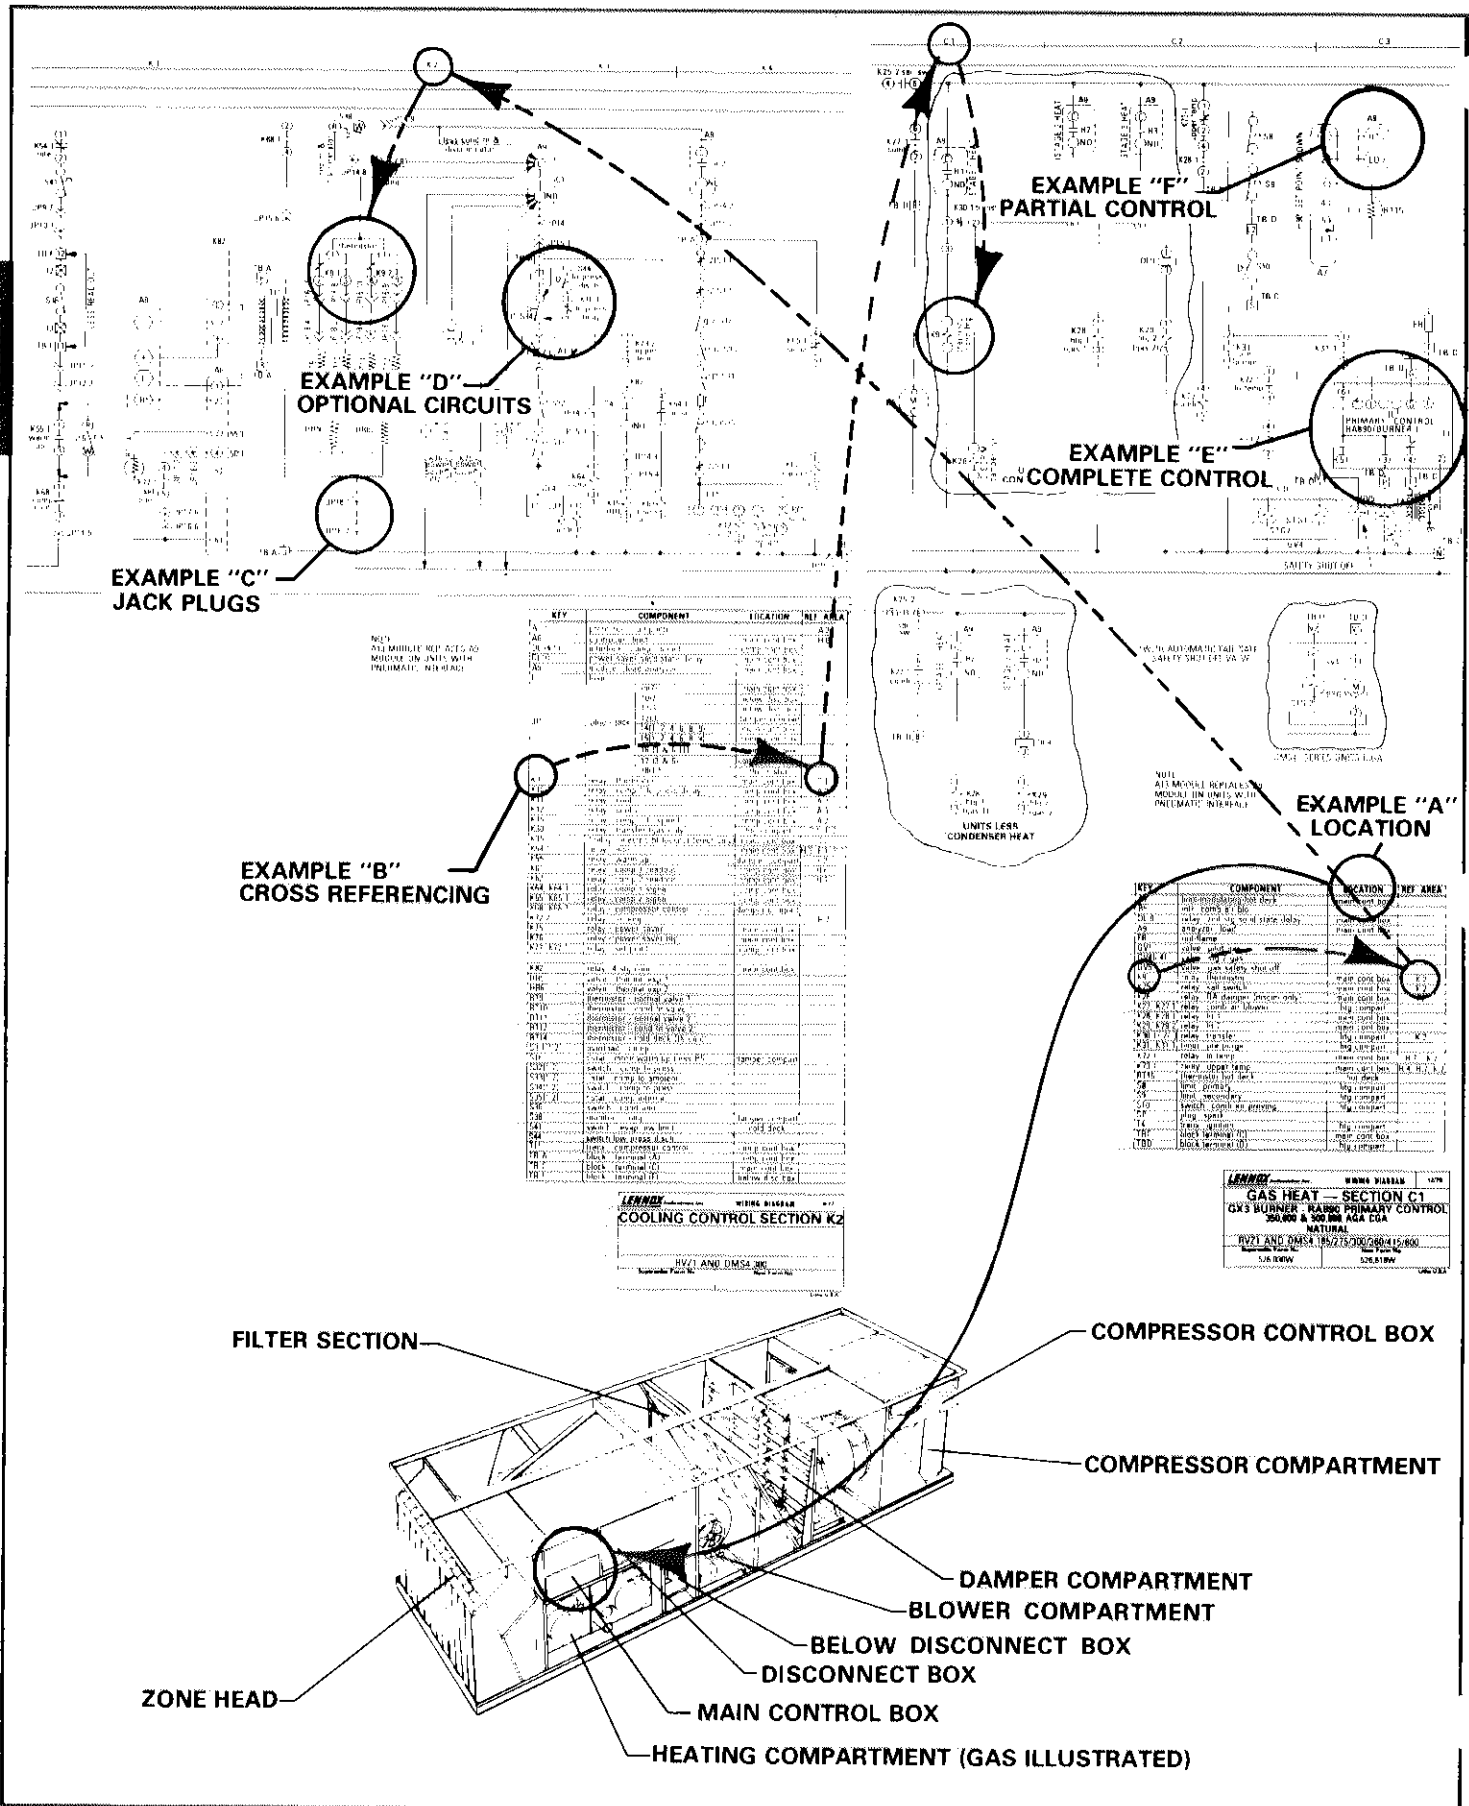

FIGURE 24
- Location of component. See Example A in Figure 24.
- Cross reference to other diagram sections. See Example B in Figure 24.
- 5 - Jack plugs are shown in the schematic circuit by both jack plug number and terminal number. In Example C of Figure 24, JP17-2 indicates jack plug number 17 and terminal number 2.